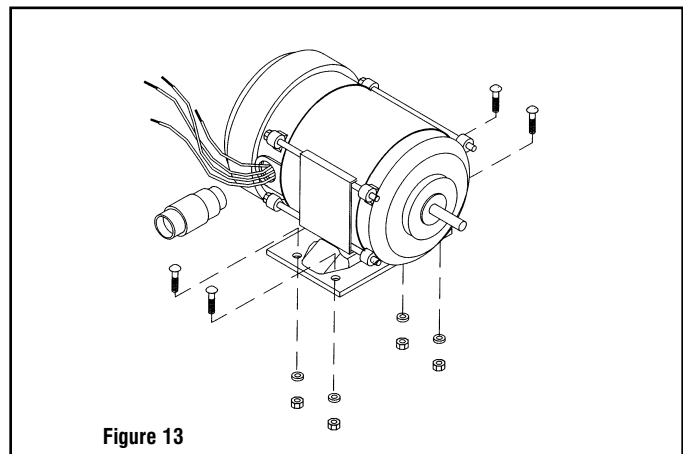

Figure 13
- E. Remove 4 bolts in motor base holding it to rear cabinet shelf. See Figure 13.